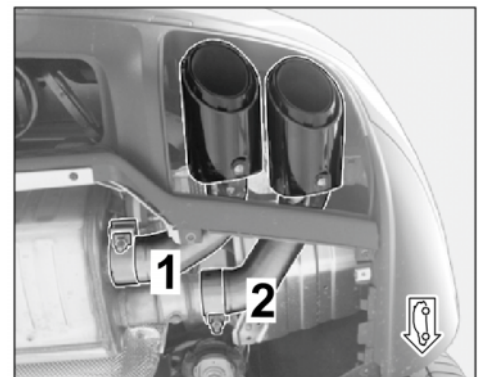

Figure 6
2.1 Carefully guide the sports tailpipe - inner (left / right ⇒ *Figure 6*) through the cut-out in the rear panel and push it onto the socket of the rear silencer up to the stop.
2.3 Repeat steps 2.1 and 2.2 for the outer sports tailpipe (left/right ⇒ *Figure 6*).